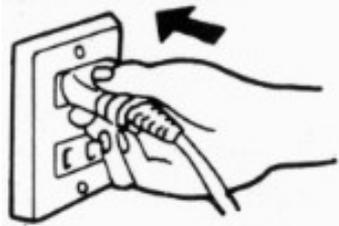

Fig. 3
3. Adjust the sealing time according to the materials and the thickness of the bags to be sealed. The sealing time should be adjusted to around grade 1 before sealing (Fig. 3). Put the opening of the bag into between the heat sealers, step down the pedal (Fig. 4) and the yellow lamp lights. Take out the sealed bag 1~2 sec after the yellow lamp is off.